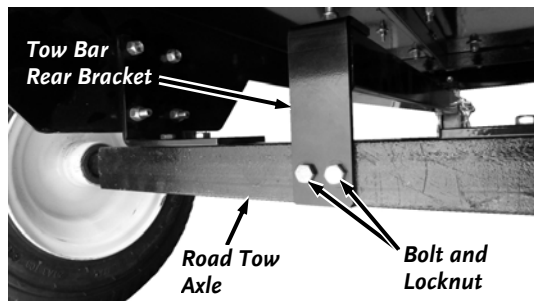

Figure 10
5. Secure the rear of the Tow Bar to the Axle with 3/8-16 x 1" Bolts and Locknuts using two 9/16" Wrenches (**Figure 10**).